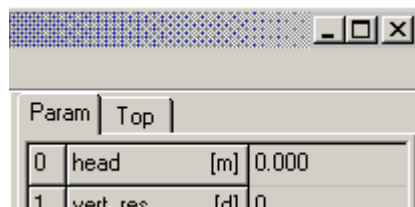

Figure 22: Data window with new top system
5. In MicroFEM's data window a "Top" tab will be created (Figure 22):